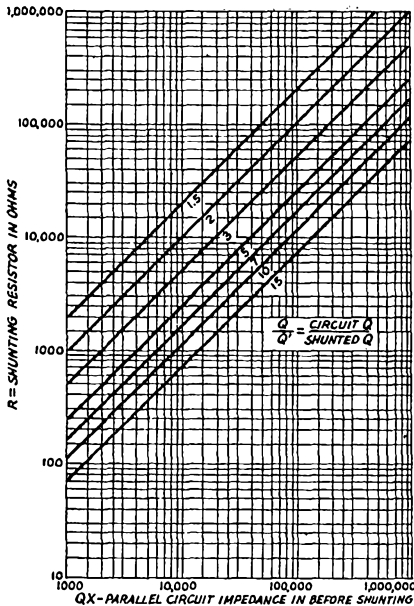

Fig. 5 — Chart based on Eq. (16) showing values of shunting resistance required to obtain a desired Q .
where X is the reactance of the coil or condenser in the tuned circuit at the resonant frequency. A graph of Eq. (16) is given in Fig. 5. If in the example just given above $Q_1 = Q_2 = 120$, the circuits could be shunted with resistances to reduce the Q to the desired 36.5. $\frac{Q}{Q'} = 3.29$, and if the coil
reactance is 1200 ohms, then QX is 144,000 ohms. From Fig. 5 the shunting resistor, R , should be 52,000 ohms.